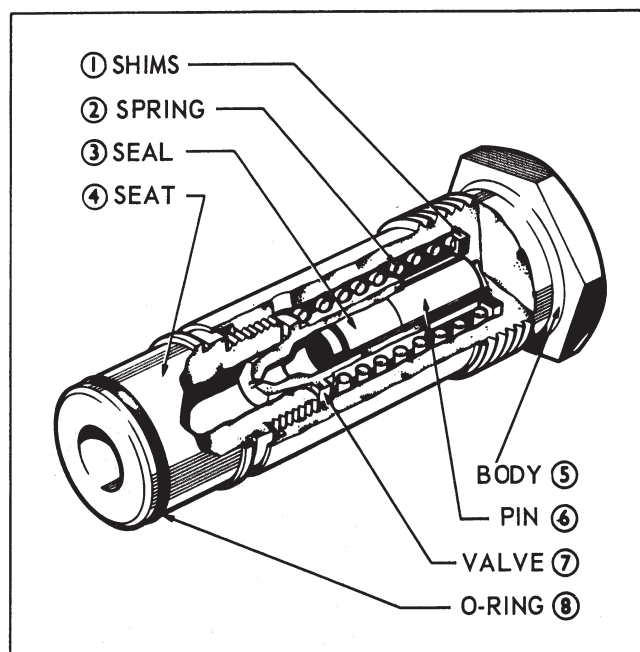

Figure 17
A new type of pressure relief valve assembly, Figure 17, has been introduced in the hydraulic pumps of new model Ford 4000 and 5000 tractors with Independent P.T.O. This valve will also be introduced shortly as a running change in the rear axle center housing of all models with the engine mounted hydraulic pump. It may also be installed when servicing previous type tractors if so desired.
The easiest way to check this is to install another valve assembly known to have the correct setting. If this corrects the fault then the original valve should be dismantled for examination. Where necessary, the valve may be adjusted by adding or subtracting shims (1), Figure 17, from behind the spring.